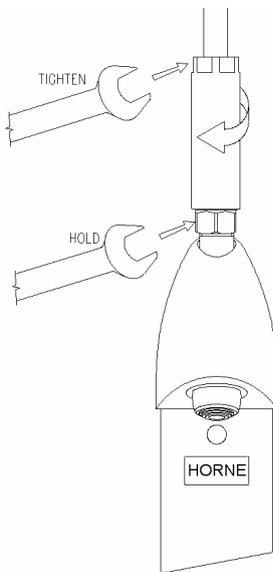

Fig 2
Then, with the 15mm copper pipe firmly pushed into place in the compression fitting, use a second spanner to tighten the COVER NUT (3) against the OUTLET CONNECTOR (1), (see Fig 2.)